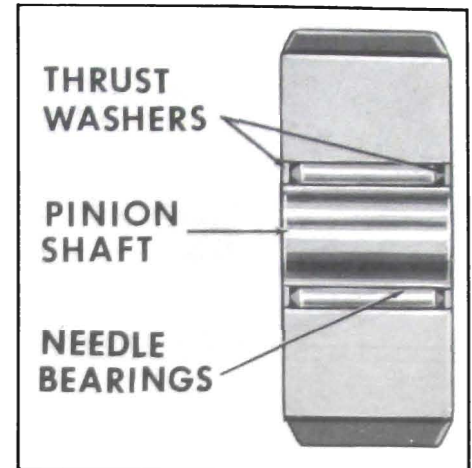
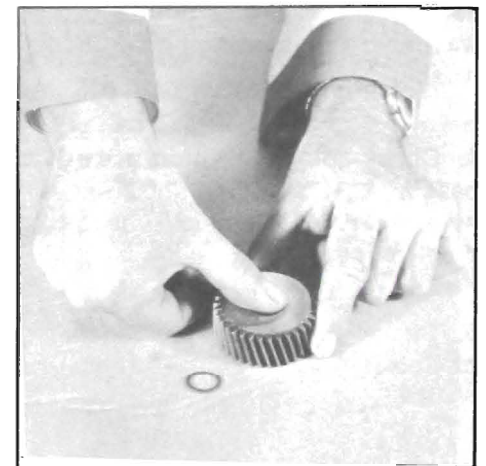

Figure 5-280
Figure 5-280A
10. Install twenty (20) needle bearings, and one thrust washer in the pinion gear. See Figure 5-280. With a twisting motion, lock the needle rollers in place. See Figure 5-280A.